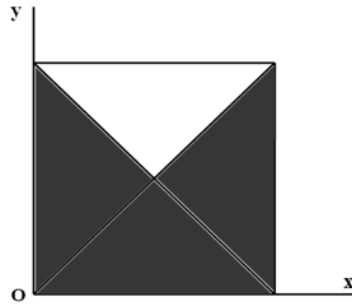

Figure 2
- (b) Locate the centroid of the shaded three-quarters of the area of a square of dimension 'a' as shown in the Figure 2. [7M]